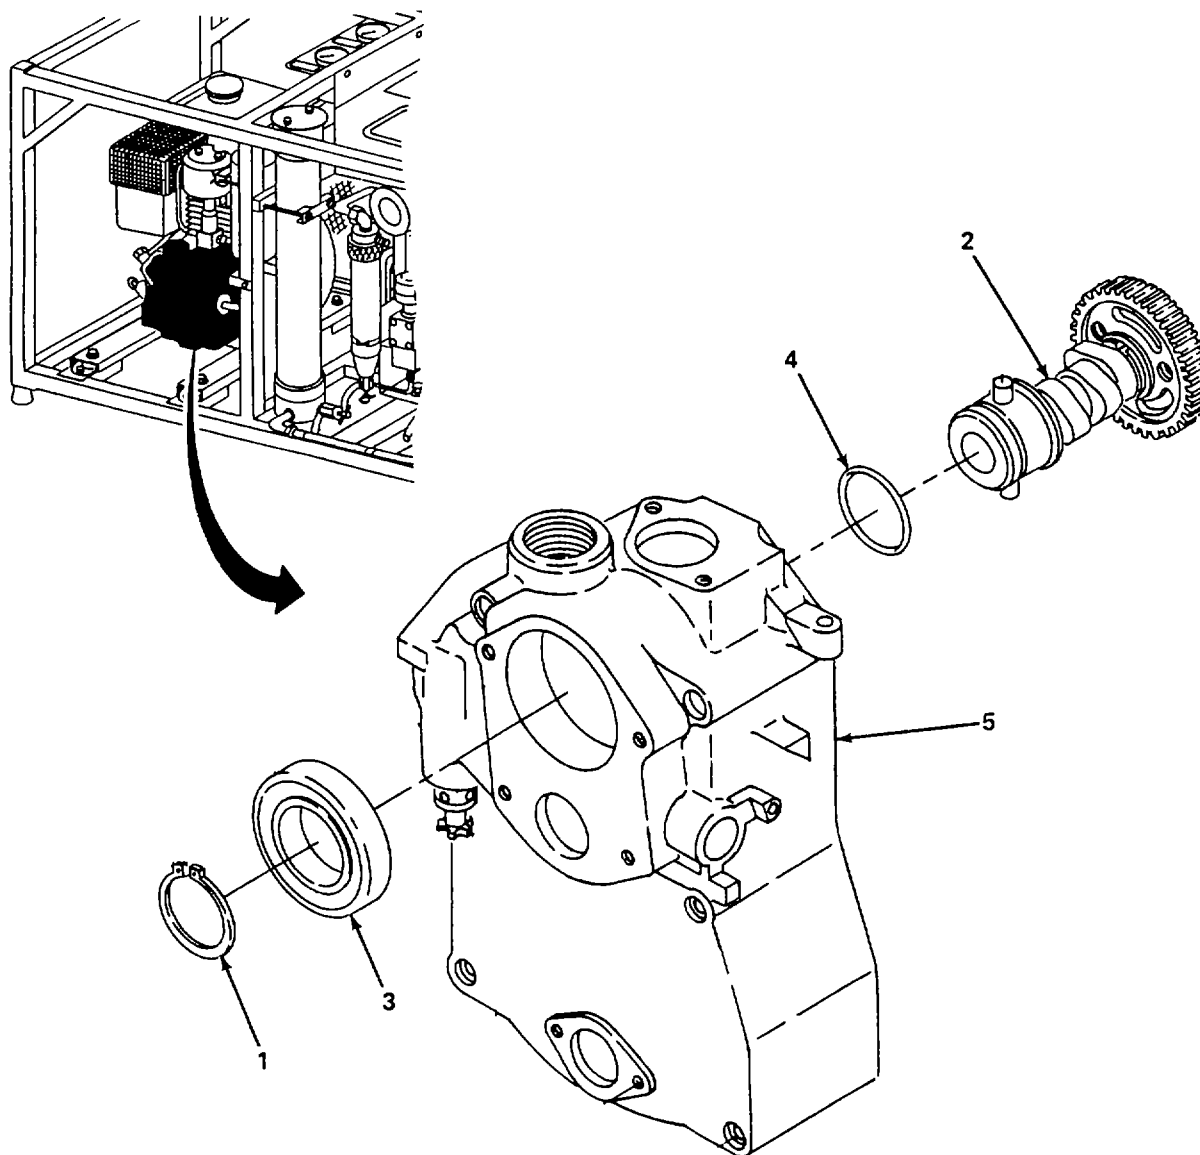

Figure 6-17. Camshaft Assembly, Replace.
a. Replace. (figure 6-17)
- (1) Remove retaining ring (1).
- (2) Press camshaft (2) out of bearing (3) and remove preformed packing (4). Discard preformed packing (4).
- (3) Press bearing (3) out of gear cover (5).
- (4) Press new bearing (3) into gear cover (5).
- (5) Install new preformed packing (4) and press new camshaft (2) into bearing (3) and secure with retaining ring (1).